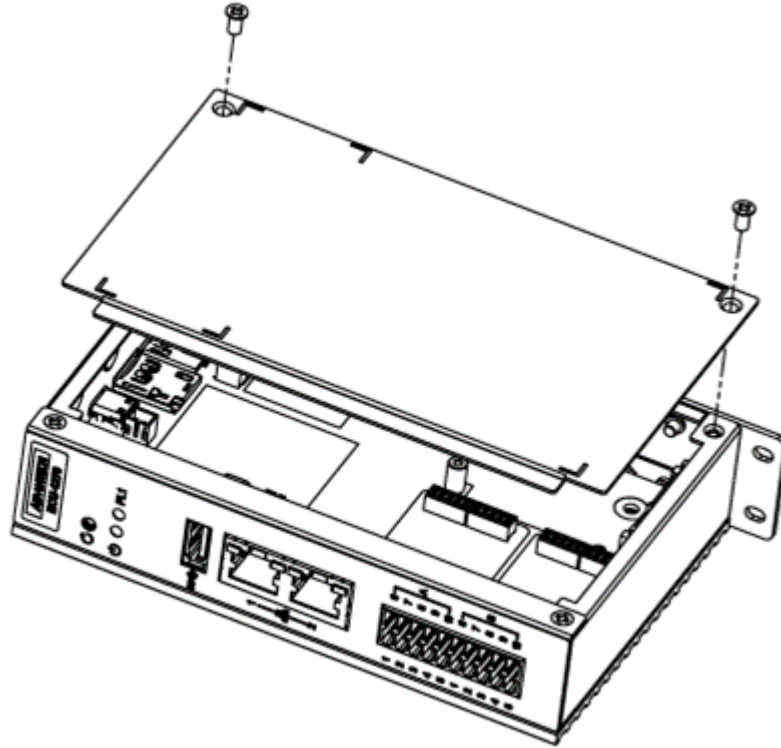

Figure 4.1 Unscrew to open the enclosure
1. Unscrew the side plate and open the enclosure, same as shown in Figure 4.1.